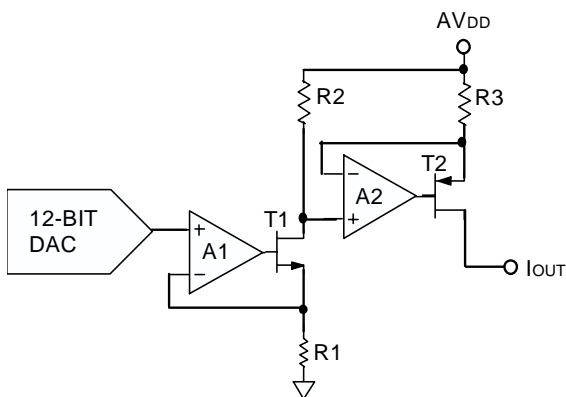

Figure 34. Voltage to Current conversion circuitry
The voltage output from the DAC core is converted to a current (see diagram, Figure 34) which is then mirrored to the supply rail so that the application simply sees a current source output with respect to ground.
- 1) The Voltage at I_{OUT} attempts to rise above the compliance range, due to an open-loop circuit or insufficient power supply voltage. The I_{OUT} current is controlled by a PMOS transistor and internal amplifier as shown in Figure 34. The internal circuitry that develops the fault output avoids using a comparator with “window limits” since this would require an actual output error before the FAULT output becomes active. Instead, the signal is generated when the internal amplifier in the output stage has less than approximately one volt of remaining drive capability (when the gate of the output PMOS transistor nearly reaches ground). Thus the FAULT output activates slightly before the compliance limit is reached. Since the comparison is made within the feedback loop of the output amplifier, the output accuracy is maintained by its open-loop gain and an output error does not occur before the FAULT output becomes active.